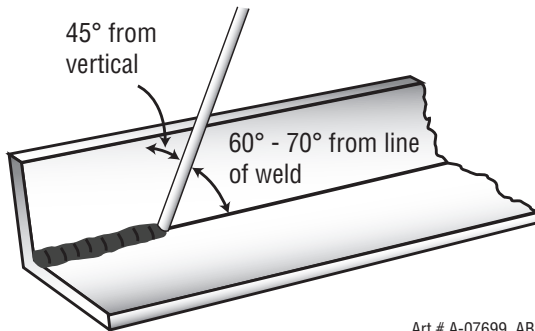
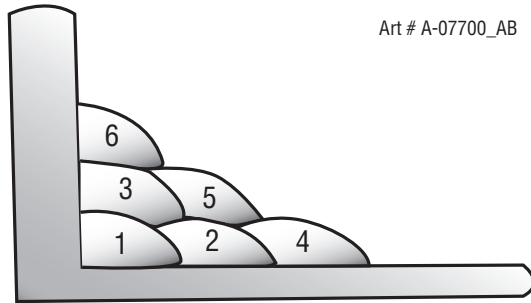

Figure 4-24: Electrode Position for HV Fillet Weld
Figure 4-25: Multi-runs in HV Fillet Weld
A piece of angle iron is a suitable specimen with which to begin, or two lengths of strip steel may be tacked together at right angles. Using a 1/8" (3.2 mm) E7014 electrode at 100 amps, position angle iron with one leg horizontal and the other vertical. This is known as a horizontal-vertical (HV) fillet. Strike the arc and immediately bring the electrode to a position perpendicular to the line of the fillet and about 45° from the vertical. Some electrodes require to be sloped about 20° away from the perpendicular position to prevent slag from running ahead of the weld. Refer to Figure 4-24. Do not attempt to build up much larger than 1/4" (6.4 mm) width with a 1/8" (3.2 mm) electrode, otherwise the weld metal tends to sag towards the base, and undercut forms on the vertical leg. Multi-runs can be made as shown in Figure 4-25. Weaving in HV fillet welds is undesirable.